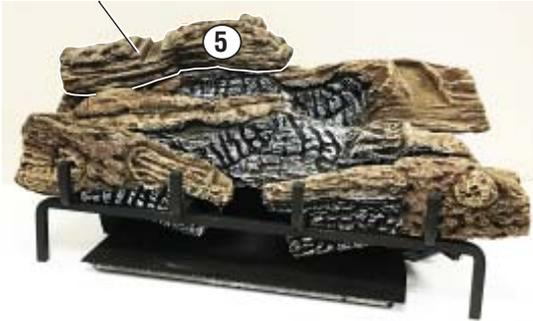

Figure 44 - Installing Log # 5
- Place the left top back log (#5) on top of the rear log. Match the rectangular projection on top of the left side of the rear log with the rectangular hole on the bottom of the left top back log. Match the metal pin on the top of the rear log with the round hole in the bottom of the left top back log. See **Figure 44**.